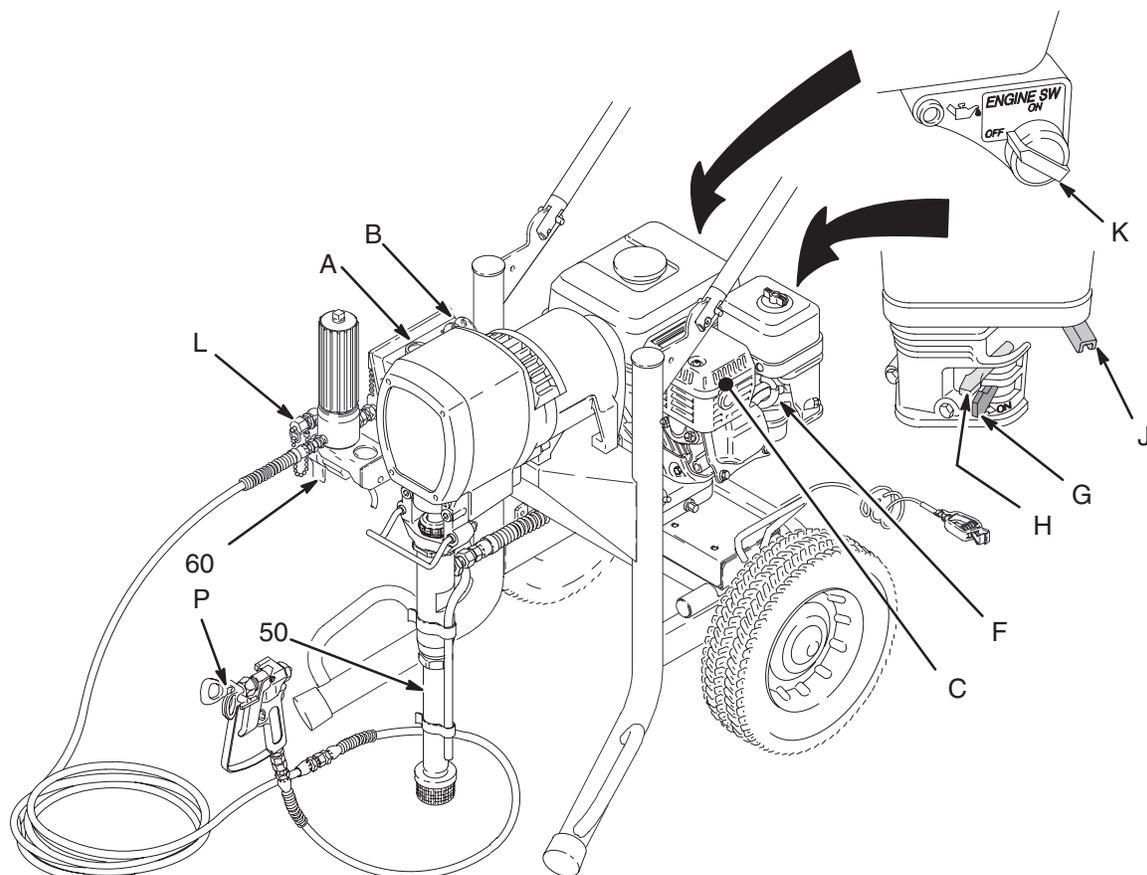

Fig. 5
**NOTE:** For the startup procedure, refer to Fig. 5 except where noted otherwise.
4. Close the pressure drain valve (60). See Fig. 5. Squeeze the trigger until fluid flows from the gun. This primes the hoses. Release the trigger. Engage the gun safety latch. See Fig. 4, page 8.
Close the black fuel shutoff lever (G) when transporting the sprayer to prevent fuel from flooding the engine. See Fig. 5, page 9.
**WEEKLY:** Remove the cover of the air filter (C) and clean the element. See Fig. 5, page 9. Replace the element, if necessary. If operating in an unusually dusty environment, check the filter daily and replace it, if necessary.